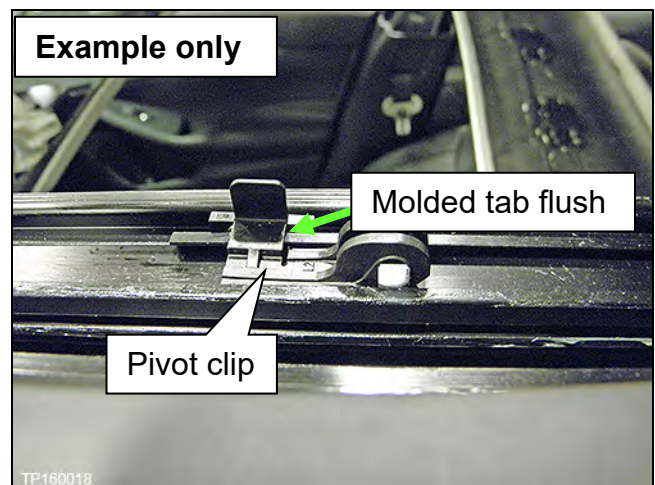

Figure 23
7. Confirm that the molded tabs are completely locked into the Moonroof frame, and are flush with Moonroof frame (Figure 23).
- Figure 23 shows the driver's side pivot clip with wind deflector arm removed so that the molded tab can be seen.